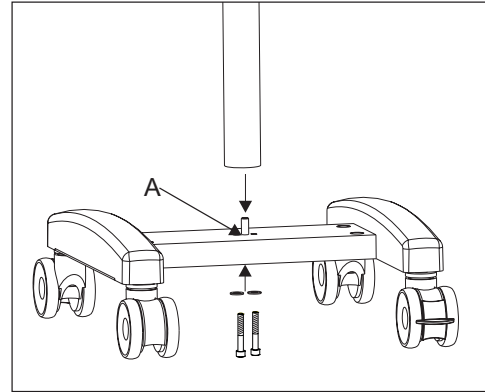
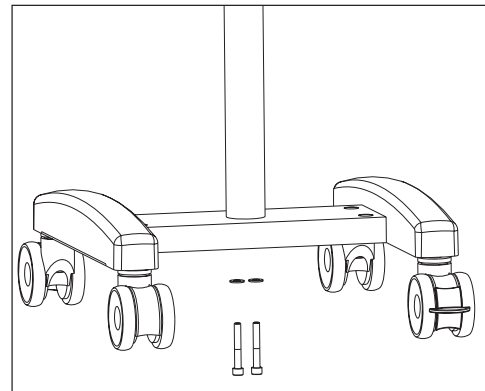

Fig. 2
Fig. 3
7.1 The base is installed by fixing the column on the base. Engage the column to the indexing screw (A), see Fig. 2. Align the tapped hole of the column in the screw seat, hold the upright firmly and tight the allen screws from the bottom of the base. See Fig.3.